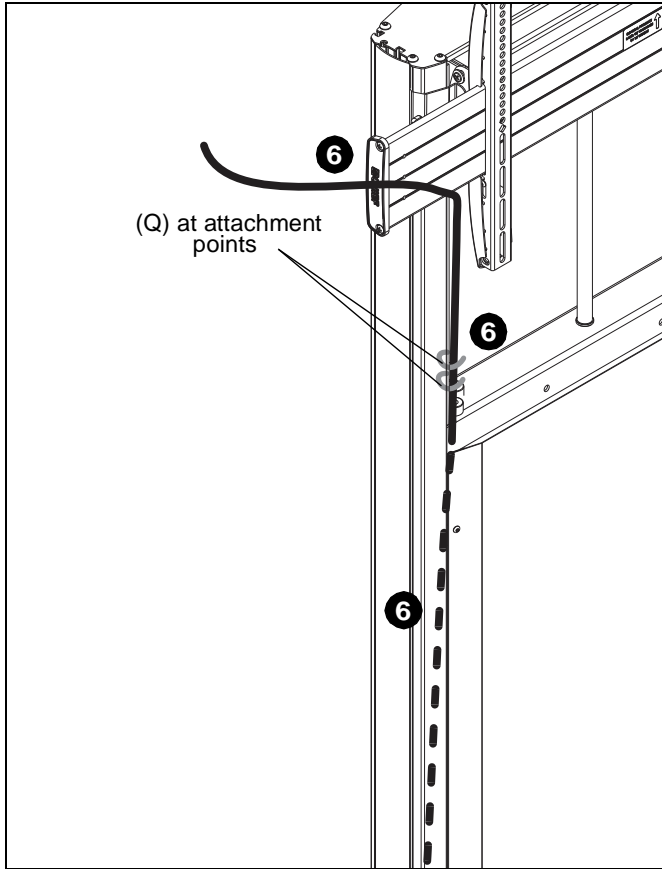

Figure 20
6. Route cables from display through inside of column assembly attaching at cable management attachment points and/or accessory bracket as desired. (See Figure 20)